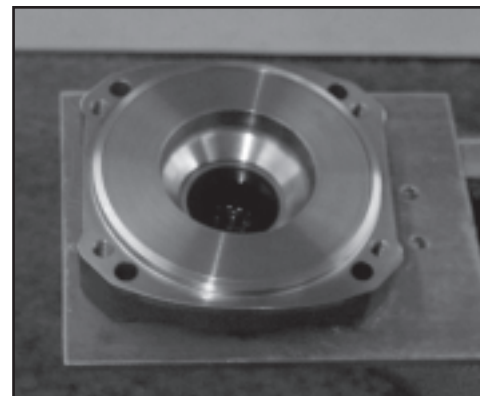

Figure A7
6. Gently slide piston into case until larger o-ring is against the case. Using a light duty press, push the piston completely into the bore (be careful not to damage seals or back-up rings). This will squeeze the o-rings and back-up rings and set the piston against the friction pack. Use shaft as an alignment tool for spline disk. After alignment of disk, both piston and sea, then remove the shaft. SEE FIGURE A7